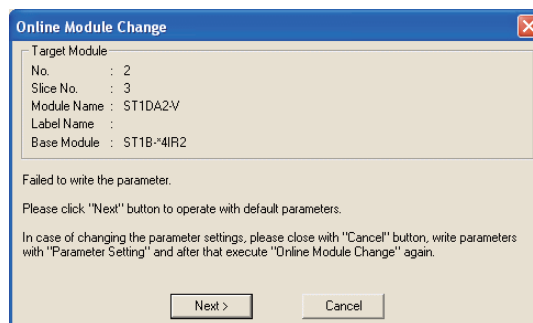

Figure 4.25 When failed to load command parameters
- 3) If the command parameters could not be read from the slice module, the REL. and ERR. LEDs on the head module turn on, and an error message is displayed on the screen by operation (h). (☞ Figure 4.25)